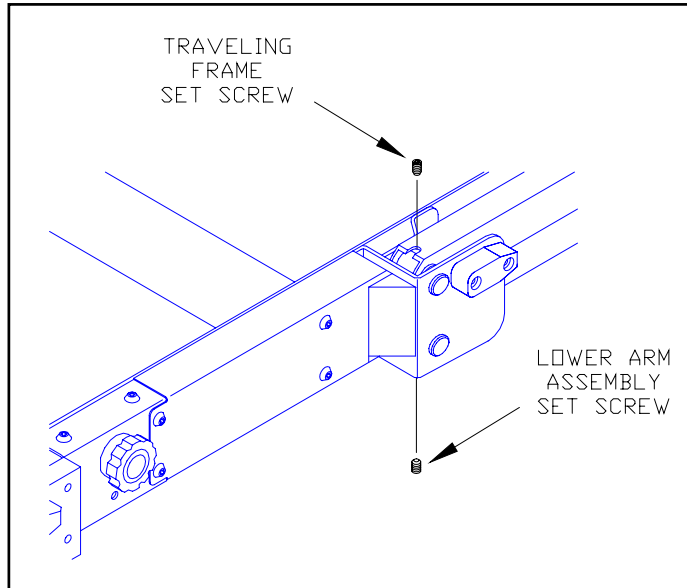

FIGURE 4-7: TRAVELING FRAME/PLATFORM SET-SCREWS
- 2) Refer to **Figure 4-7**. On the RIGHT-SIDE of the lift at the junction of the traveling frame and platform, remove the traveling frame and lower arm assembly set screws. Repeat this step for the LEFT-SIDE.